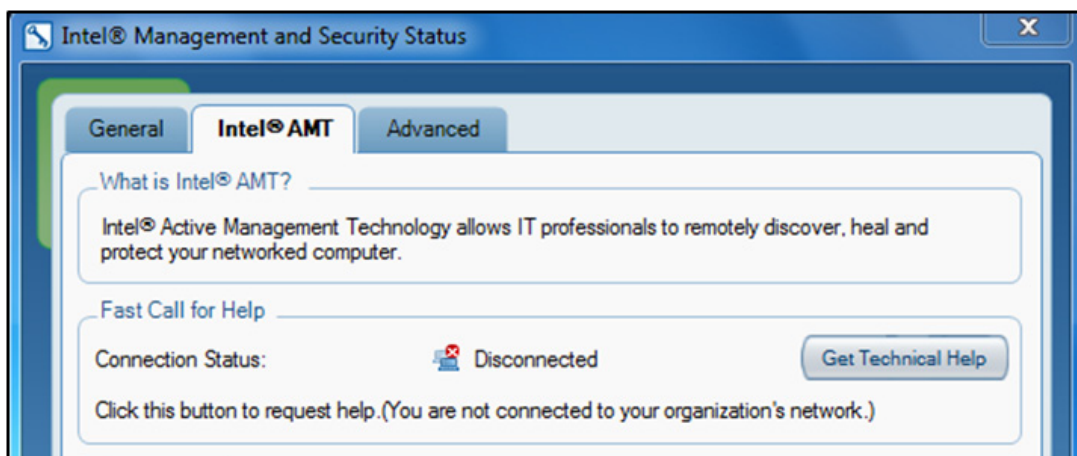

Figure 11. The IMSS Screen (initiate CIRA connections from here)
2. Open the Intel Management and Security Status (IMSS) by clicking on it in the notification area (Figure 11).